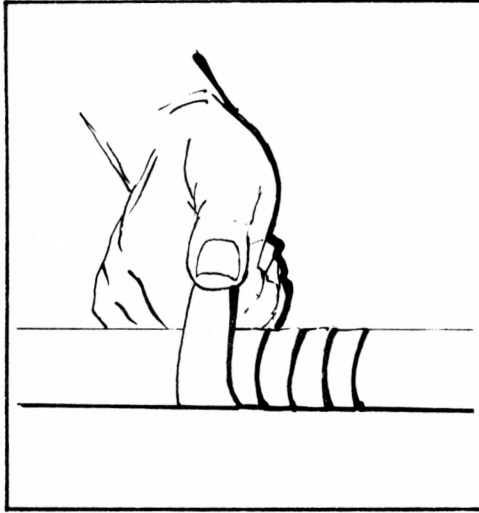

FIG. 4-5 TAPING A LEAK
- c. Wrap plastic electrical tape tightly around the pipe, overlapping each turn with half the next turn. Apply tape 75 mm (3 in.) on each side of the leak and wrap until the leak is covered with three layers of tape. See Figure 4-5.